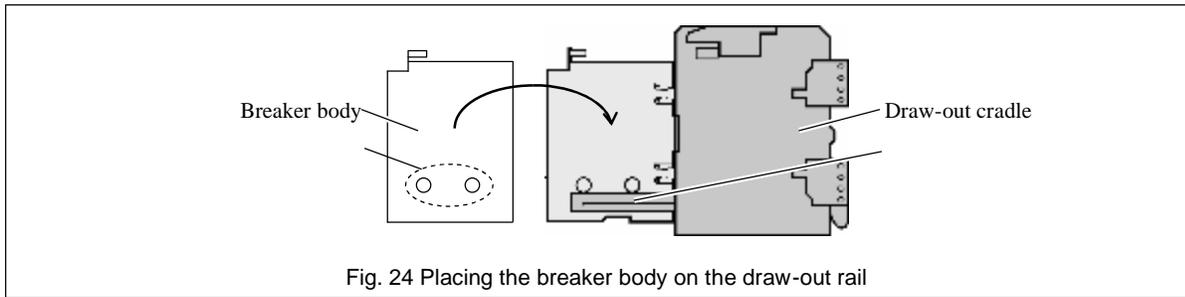

Fig. 24 Placing the breaker body on the draw-out rail
- 3) Use an optional lifter or lifting plate to place the breaker body rollers (Fig. 24) on the draw-out rail (Fig. 24).